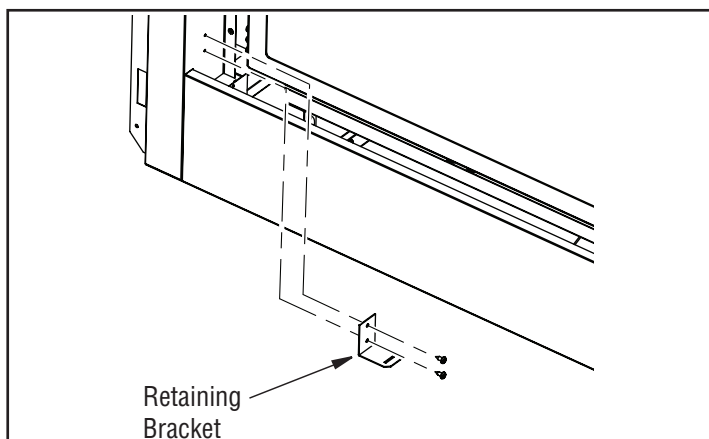

Figure 41 - Installing Access Door Retaining Brackets for See-Thru Applications
1. Screw access door retaining brackets into the inner side face using 2 screws on both the left and right side as shown in Figure 41.